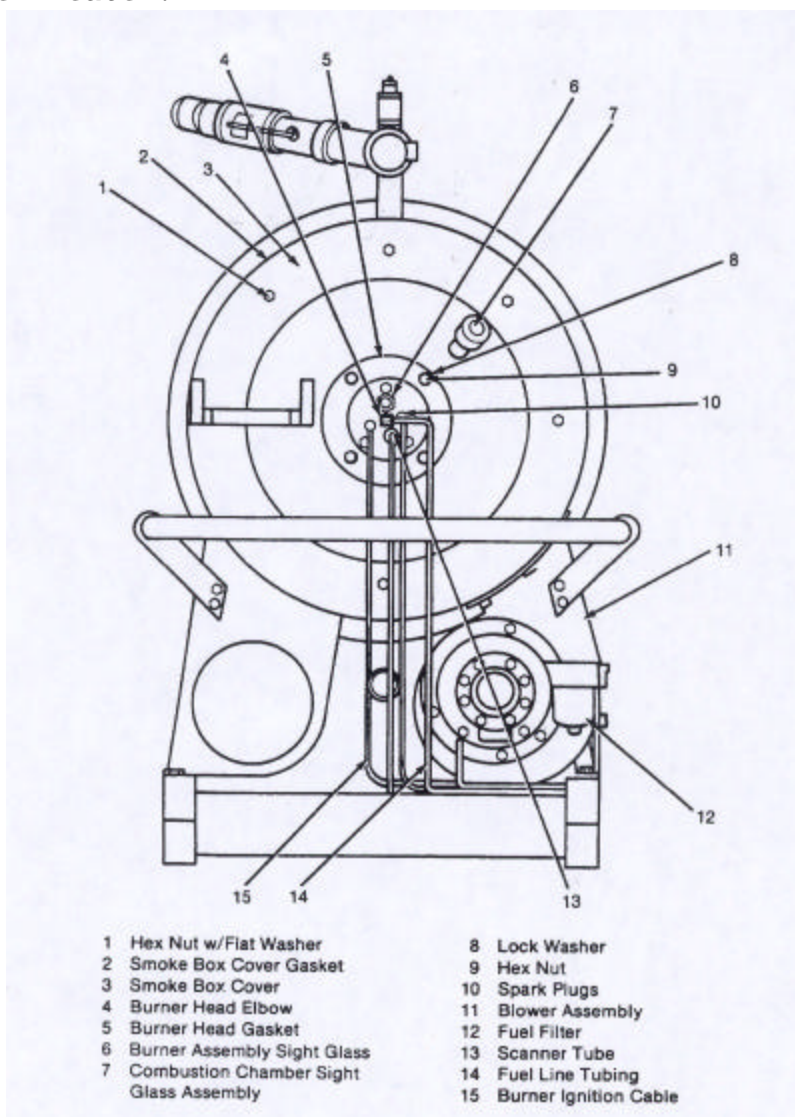

Figure 5-10
b. Check burner head assembly. (**Figure 5-10**)
(1) To remove, disconnect burner fuel line tube (**14**), both burner ignition cables (**15**), and scanner tube (**13**) from burner head assembly.
(2) Remove four hex nuts (**9**) and lock washers (**8**) that secure burner head assembly to water heater.
(3) Remove burner head assembly and burner head gasket (**5**) from water heater.
(b) Secure nozzle and electrode assembly to water heater, using four lock washers (8, **Figure 5-10**) and hex nuts (9).
(c) Connect burner fuel line, both ignition cables, and scanner to burner head elbow (**Figure 5-10**)